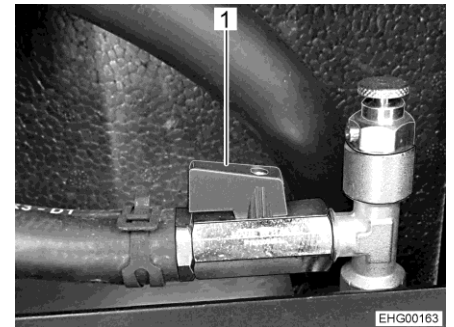

Fig. 187 Spherical valve (opened)
- Set the lever (Fig. 187,1) parallel to the pipe.